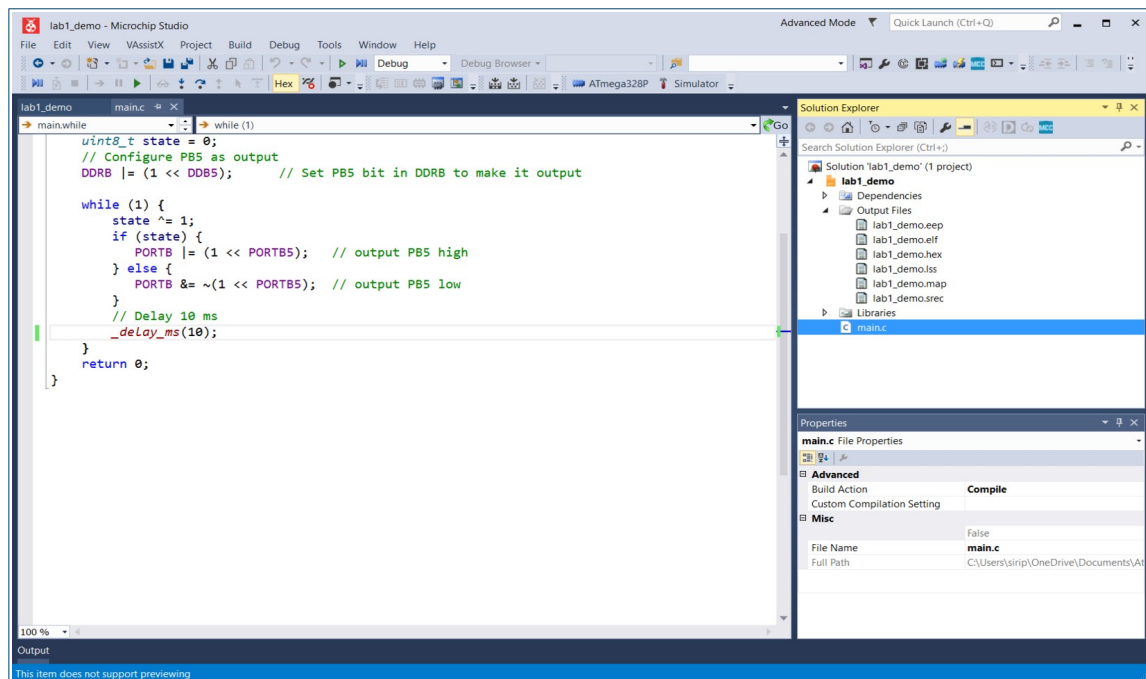

Figure 4: Output files of the project under the subdirectory named Debug
- 1.4 Compile and build the project to generate the output files (see **Figure 4**).